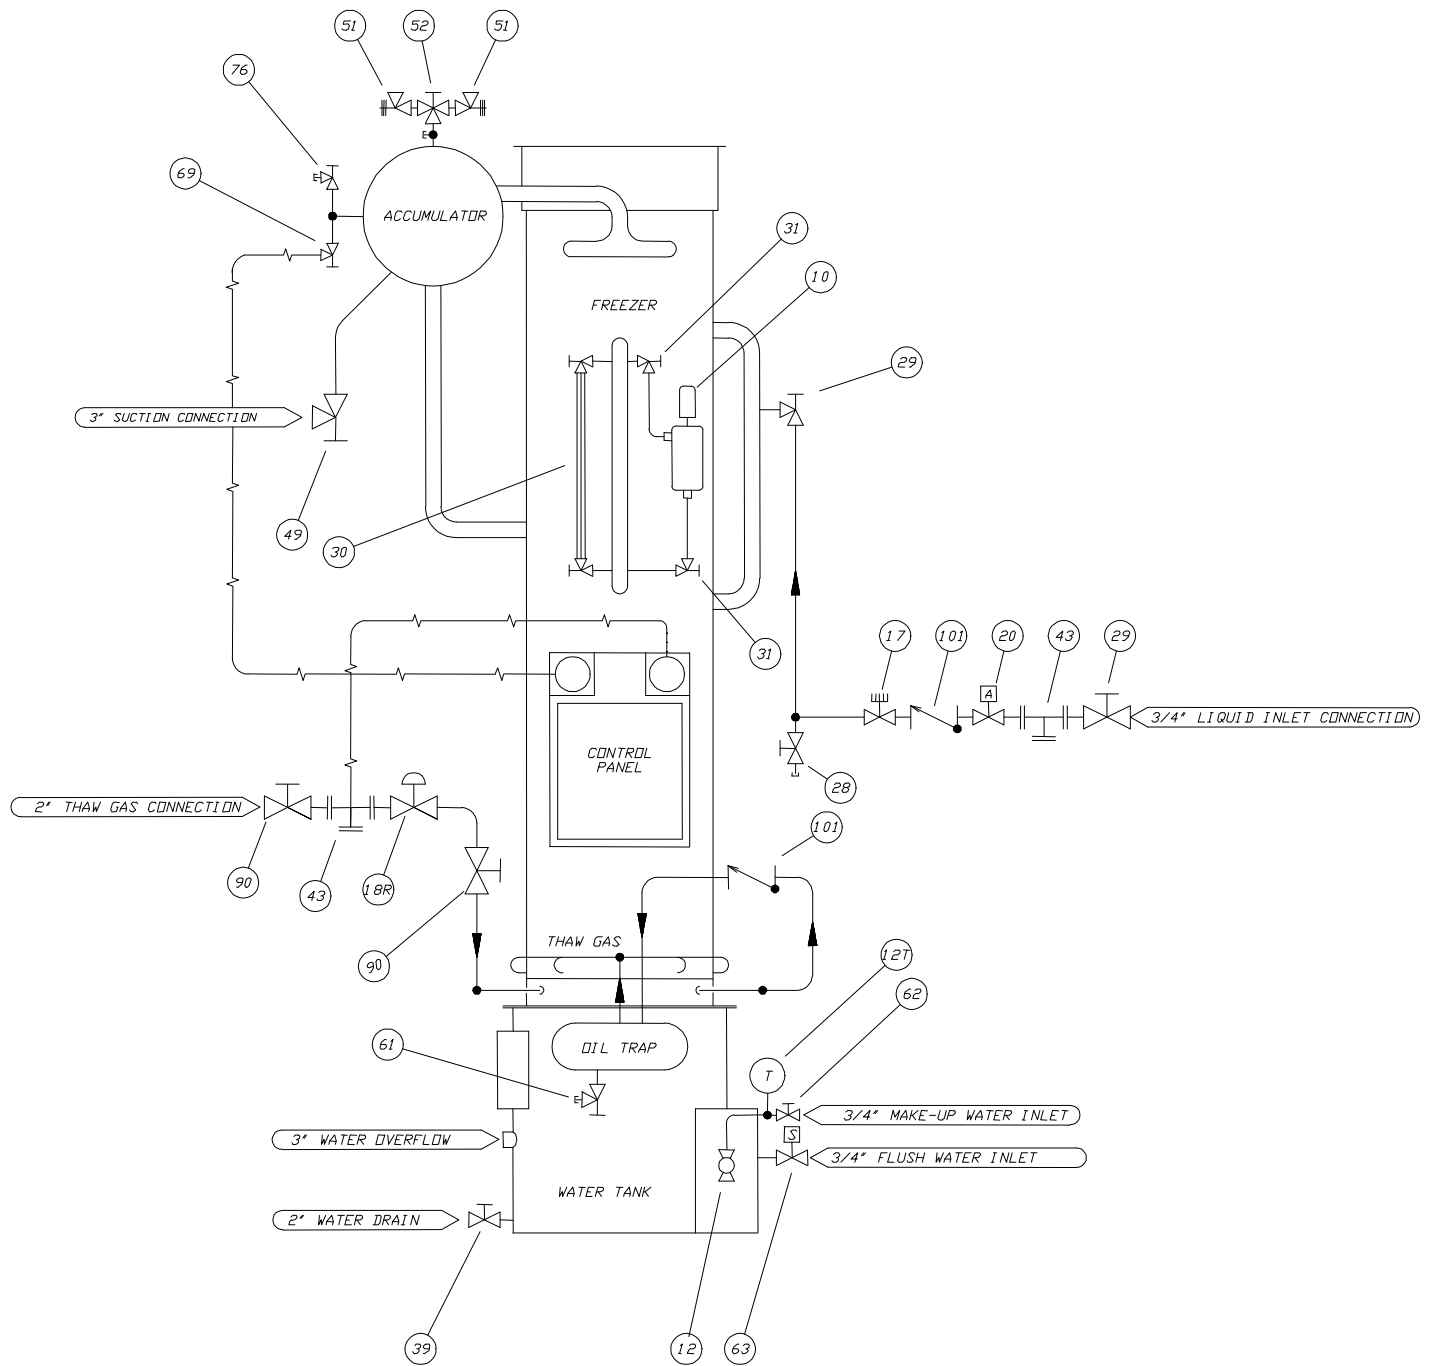

FIGURE 4-1
Operating Features. Your Tube-Ice® low side machine is an efficient ice producing plant. If installed and maintained properly, it will give many years of operation with a minimum amount of repairs. Refer to piping schematics, FIGURE 4-1 and 4-2 to identify component parts while following the information and instructions in this manual.
Refrigeration System Review. The refrigeration system uses R-22 refrigerant. Following the piping schematic (Figure 4-1 or 4-2), you will see that during the machine's freeze cycle, the compressor discharge gas goes through the oil separator (14) to remove any oil present in the discharge gas and return the oil to the compressor crankcase. From the oil separator, the discharge gas continues through a heat coil in the lower part of the condenser/receiver (15). It is then discharged into the condenser and condensed into a liquid by the removal of heat by water passing through the condenser tubes. A reservoir of liquid refrigerant is accumulated in the receiver and is required for thawing purposes. Liquid from the receiver flows through the filter drier (46), and the heat exchanger (13), to the "A" solenoid valve (20A), which opens and closes by action of the capacitive level probe (65). The liquid is then expanded through the hand expansion valve (17) and into the evaporator (2) (freezer). The liquid is also fed through a bypass line and the constant feed solenoid valve (20B), which is open through the freeze cycle. The cold wet refrigerant floods the evaporator and is in contact with the outside of the ice making tubes which water is being circulated through. The heat contained in the water passes through the wall of the tubes, lowering the temperature of the water causing it to freeze and form a long tube of ice that adheres to the inside of freezer tubes. Since the purest water freezes first, the circulating water continues to wash the dissolved solids down into the sump area of the water tank. The flushing valve (63) helps to rid the water tank of increased dissolved solids by flushing them out the overflow during the harvest (thawing) period.